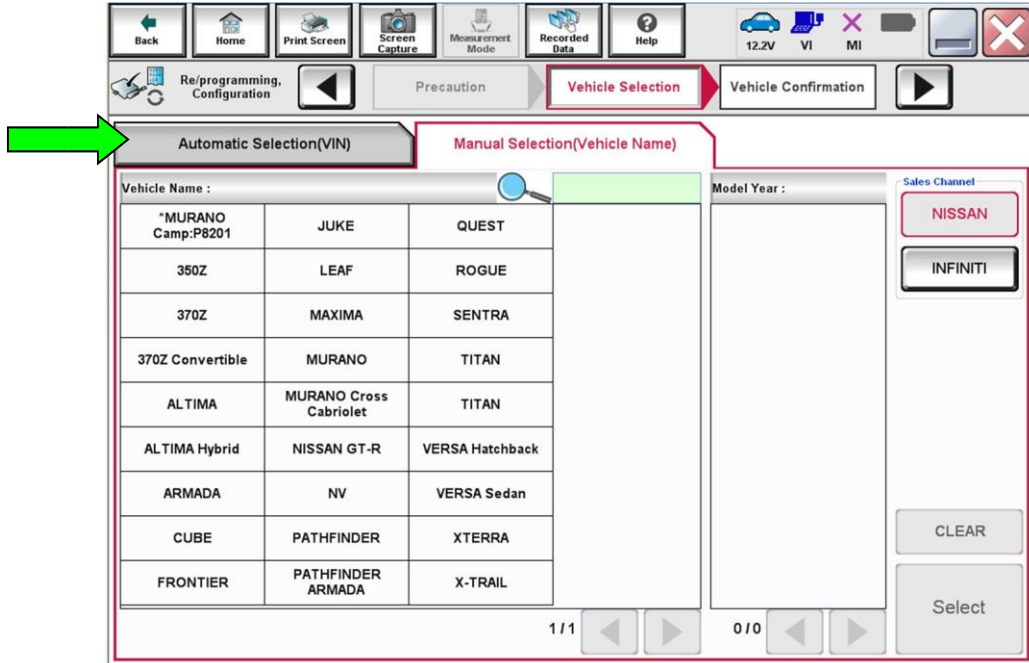

Figure 7
16. If the screen in Figure 7 displays, select **Automatic Selection(VIN)**.
□ If the screen in Figure 7 does not display, skip to step 17.